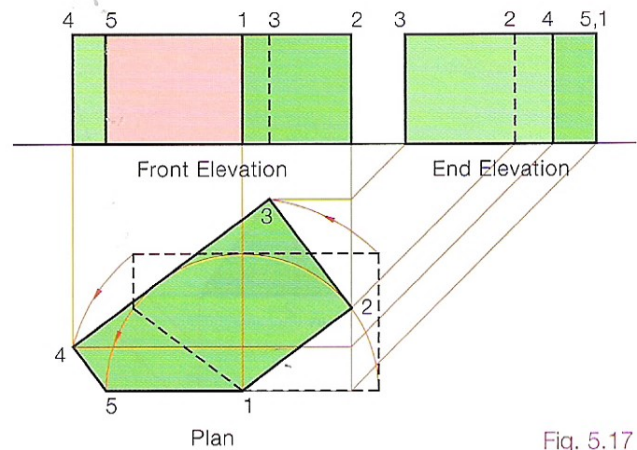

Fig. 5.17
- (1) Draw the given plan.
- (2) The plan may be rotated about any of its corners. The solution Fig. 5.17 is rotated about corner 1. Rotate 5 first until line 1,5 is parallel to the xy line.
- (3) All subsequent points are found by triangulation. For example, point 2 is rotated about point 1. The distance from 5 to 2 is taken on the plan. Place the compass on the new point 5 and scribe an arc to cut the arc from point 2.
- (4) When the plan is complete, project the other views, Fig. 5.17.